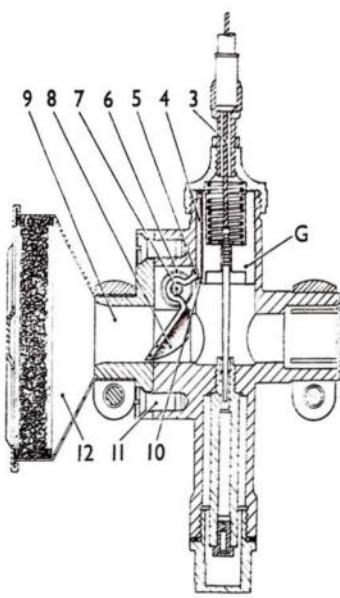

Fig. 4
Observe at the same time the action of the strangler (B) by depressing the trigger (2) on the lever (1) and over-opening the throttle (see fig. 4 on page 5). Bring back the throttle lever to the shut position and note that the throttle shuts easily.
To withdraw the throttle valve one simply unscrews the mixing chamber cap (10) and then the throttle slide (12) will drop straight out. The important thing to remember however, is when assembling same, (having removed the air filter) that the strangler (8) must be fully depressed to its closed position (see fig. 4, page 4) and then a screwdriver or some such like implement must be inserted into the slot in the strangler. Then, holding it (8) in this fully closed position the throttle (G) should be introduced into the mixing chamber, and the mixing chamber cap (10) screwed on a few threads. The screwdriver or similar can then be withdrawn and the air filter re-fitted. The strangler (8) will then return to its fully open position and the throttle slide (12) will then be quite free in the body. The mixing chamber top (3) can then be fully tightened and the carburettor is ready for operation.